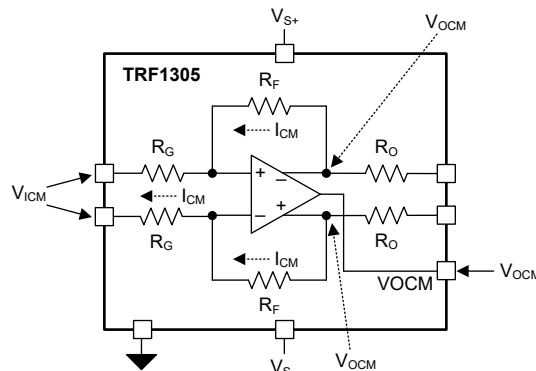

Figure 8-4. Net DC Current Flow When Input and Output Common-Mode Voltages are not Equal
The TRF1305x2 accept a wide range of input dc common-mode (CM) voltages. Take into consideration the dc current loading of the source when the TRF1305x2 is dc coupled at the input. Figure 8-4 shows that when the input CM voltage, V_{ICM} , is different than the output CM voltage, V_{OCM} , a net dc current flow from or to the source occurs. Equation 1 shows the relationship that the source or sink current, I_{CM} , has with the input and output CM voltages: